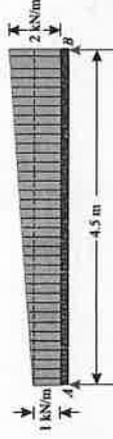

Fig.7
- 2 A simply supported beam AB of span 4.5 m is loaded as shown in Fig.7. Find the support reactions at A and B.